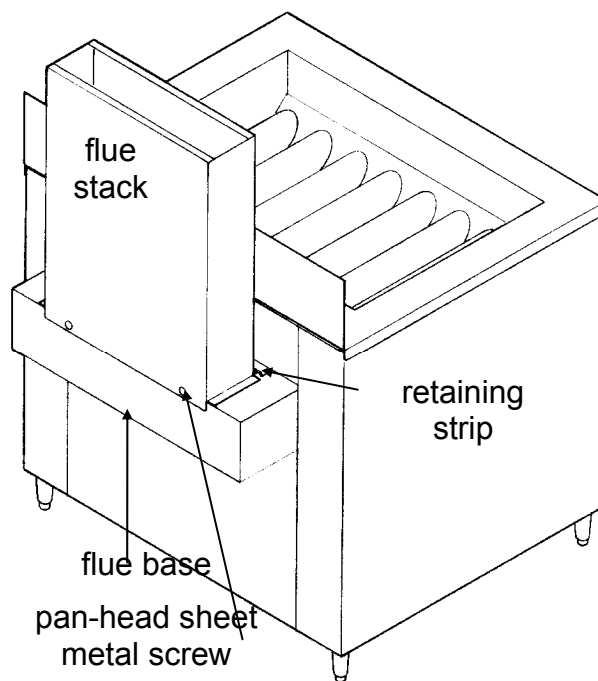

Figure 1-1. Installing the Flue Stack.
- a. Slide the flange on the bottom of the flue stack underneath the retaining strip on the flue base. The mounting holes must line up. (See Figure 1-1.)